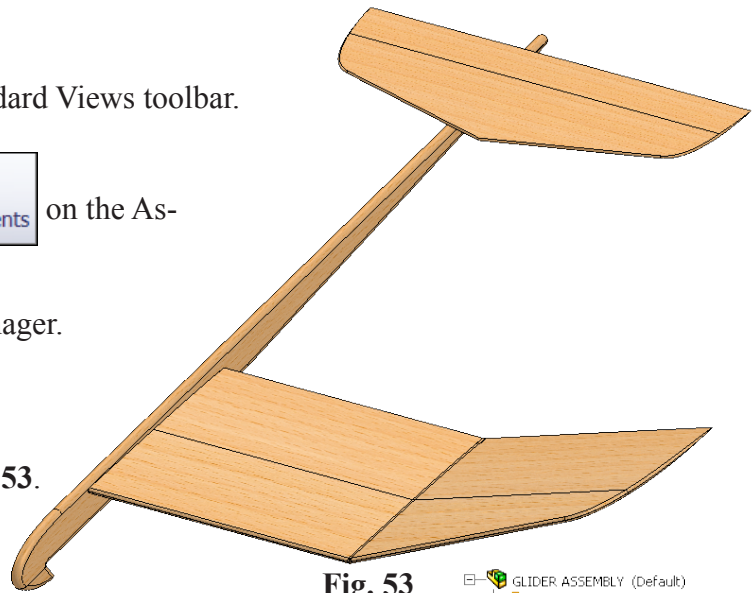

Fig. 53
Step 5. Place H Stab as positioned in **Fig. 53**.